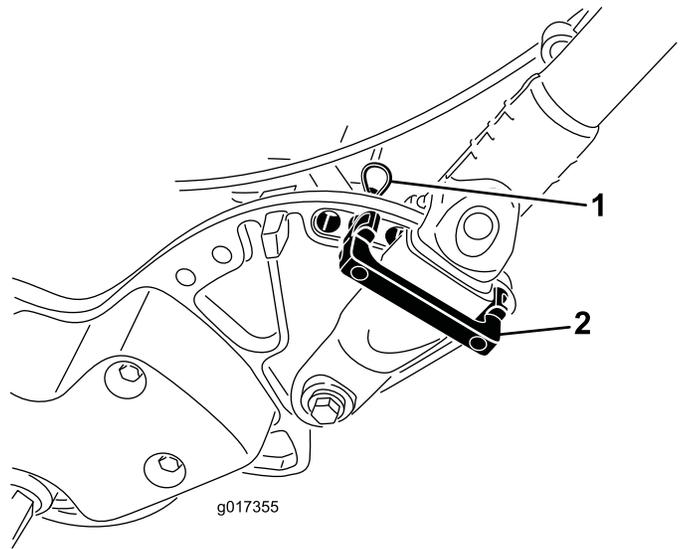

Figure 25
1. Remove the hairpin cotters from the handle retainers on each side of the machine (Figure 25).
2. While supporting the handle, remove the hairpin cotters from each side and pivot the handle to the desired operating position (Figure 25).